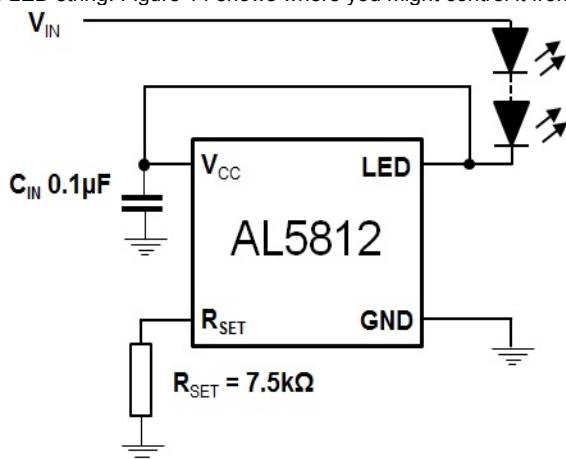
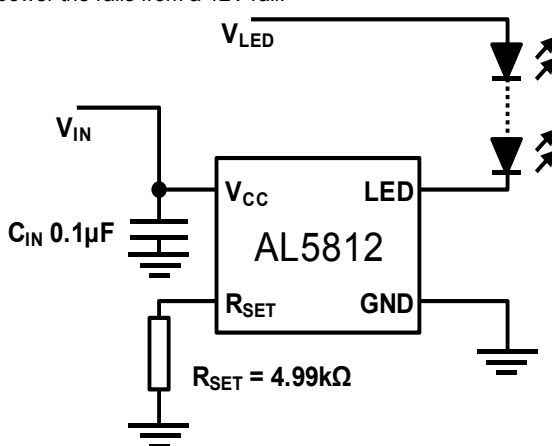
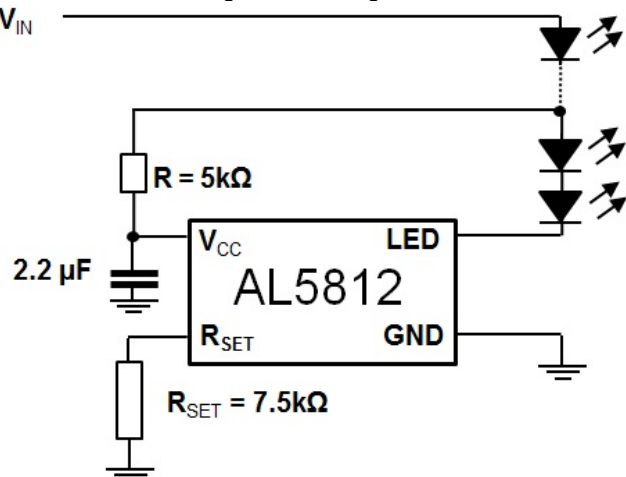
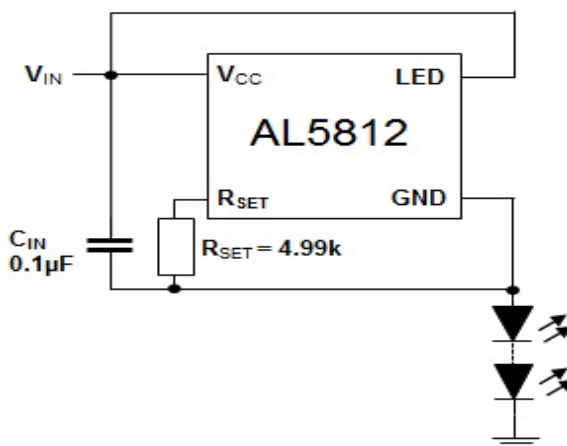

Figure 13 Low Side Current LED Setting
Figure 14 Low Side Drive – Separate Supplies
Figure 15 Low Side LED String Tapping
Figure 16 High Side Current LED String
13. The AL5812 has its  $V_{CC}$  pin connected to its LED pin, which are connected to the positive input supply voltage.  $R_{SET}$  is connected to AL5812 GND pin, which is connected to the anode of the LED chain. This creates a high side driver of the LED chain. See Figure 15.
The AL5812 is a Linear LED driver and in normal operation has the LEDs connected to the same potential as its  $V_{CC}$  pin and regulates the LED current by sinking current into to its LED pin see Figure 13.
The AL5812 with its 60V capability on its supply pin,  $V_{CC}$ , and its LED drive pin allows it to operate from supply rails up to 60V and/or directly drive LED chains up to 60V as shown in Figures 13 and 14. The voltage applied to the  $V_{CC}$  pin can be greater or lower than the voltage applied to the LED string. Figure 14 shows where you might control it from a 5-V rail but power the rails from a 12V rail.
An extension of Figure 14 is to derive the power for the AL5812 from the LED chain itself see Figure 15. LED chains greater than 60V can be driven in this manner as long as PWM dimming is not utilized.
Figure 15 shows the use of RC delay to match the power time delay between Vcc and LED pin. The AL5812 can also be used on the high side of the LEDs, see Figure 16. This is a simple way of extending the maximum LED chain voltage, however, it does increase the minimum system input voltage to: